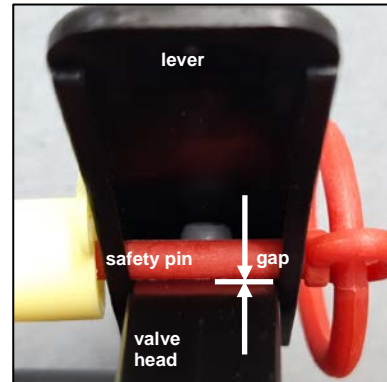

Figure 4: gap
5. Check presence of potential gap between safety pin and valve head (without touching the lever): check visually if the safety pin touches the valve head (Figure 4).
- a. Case 3: If the lever stays in its position without moving up on its own (without a gap between safety pin and valve head, refer to Figure 4): the extinguisher can be considered as not affected. No further action needed.